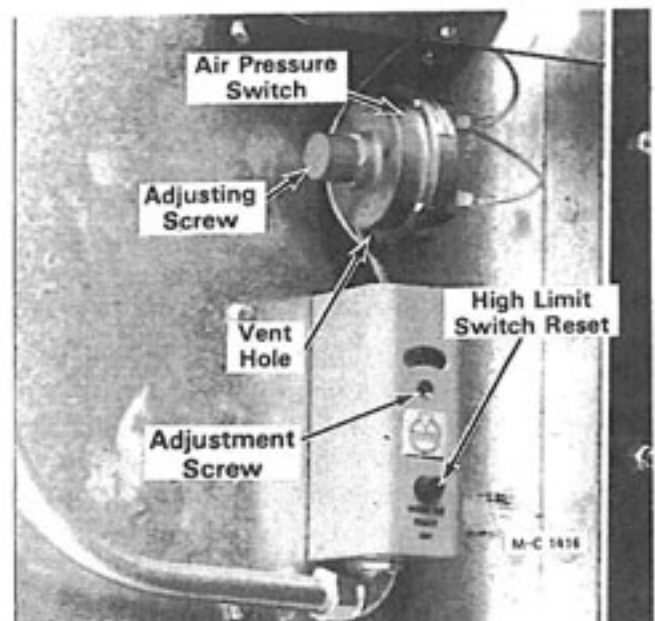

Figure 7 - Adjustable High Limit Switch
6. Flip the control circuit toggle switch ON. The control circuit ON light and high limit lights will be on. If the high limit light(s) are not on, push the reset button on the high limit switch, see Figure 7.
1. There is an air pressure switch for each heat chamber, see Figure 7. The air pressure switch senses the static air pressure in the heat chamber when the dryer is full of grain and the fan is running. If the static air pressure drops because of fan failure, the air pressure switch opens stopping current flow to the ignition switch. The gas solenoid valves will close and the burner will shut down.